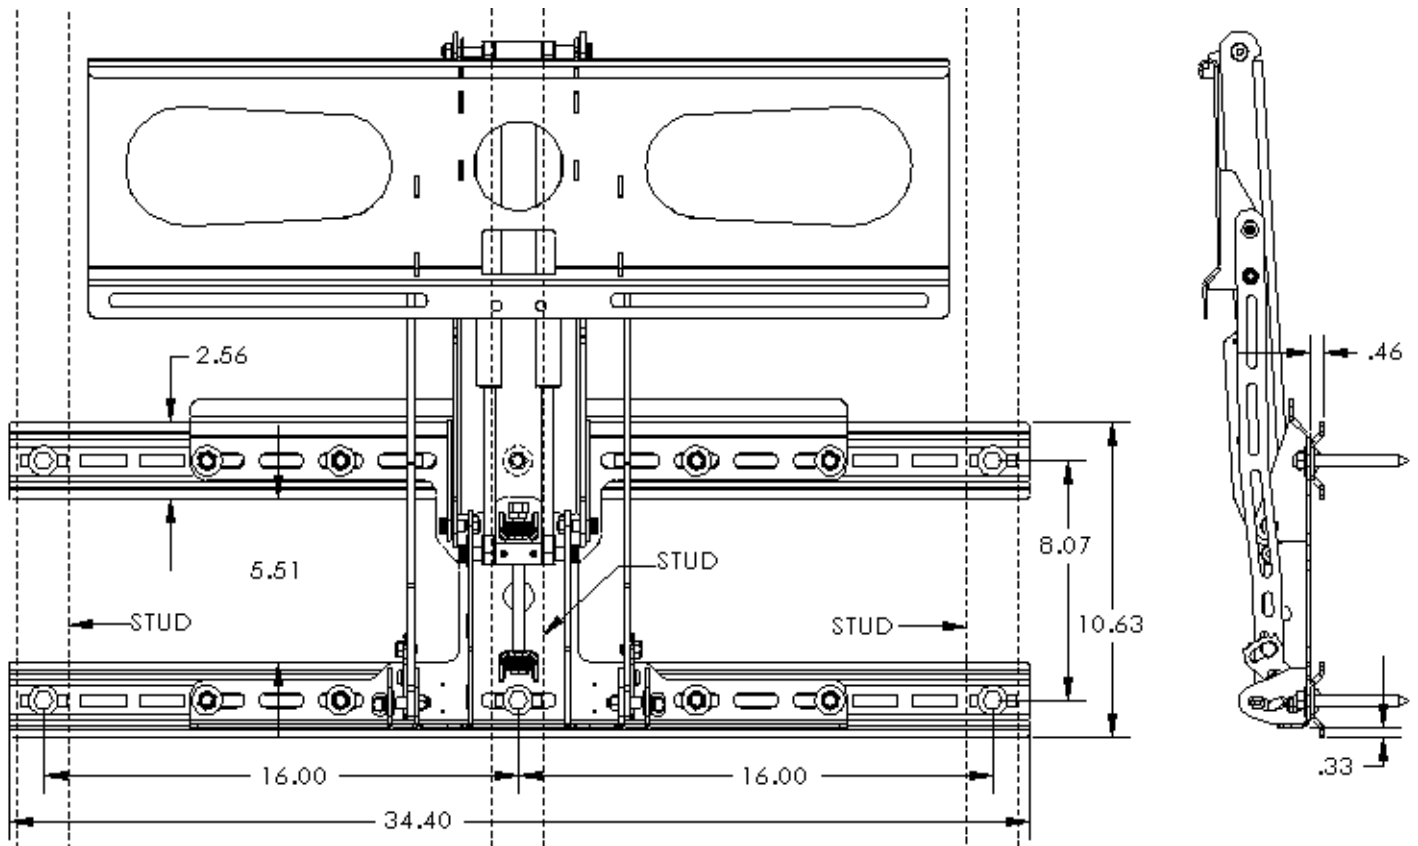

Figure 1 Down and Out Mount Centered On Wall Support
- Product Dimensions: 34.4 x 2.56 x .46 inches. See Figure 1.
6. Mark where the 6 holes will be drilled, the distance between the top and bottom set of holes should be 8.07 inches (8 inches is close enough), see Figure 1 for more details
12. If you have a stud that is centered on the mount and cannot access because the main support arm of the mount is up (this situation is shown in Figure 1) the following is what you do.